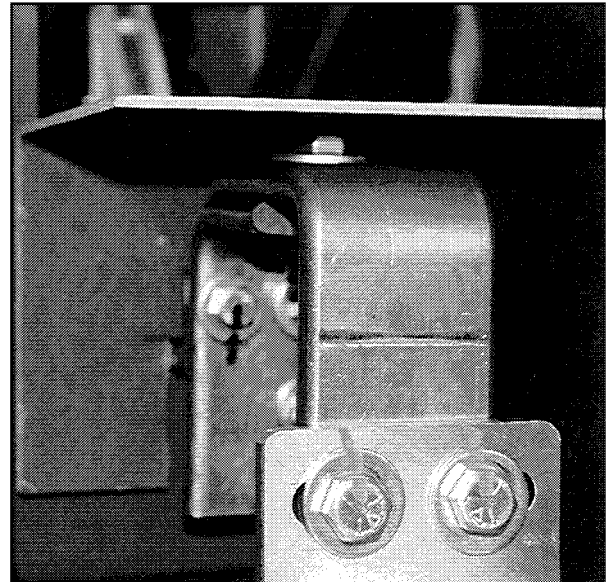

Fig. 43 Check Electrical Joints
- Examine all visible terminals and joints for signs of overheating (Fig. 43). An overheated connection will appear discolored. Be suspicious of any conducting joint which has a darker color than other similar joints.